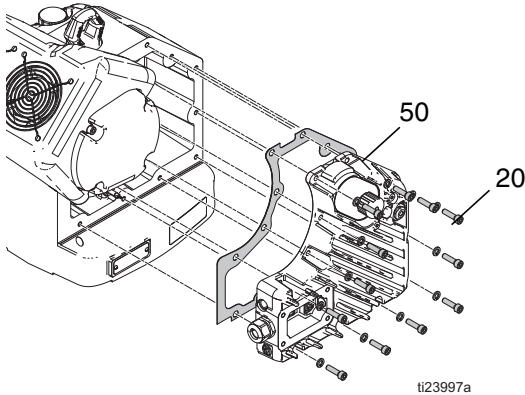

FIG. 20: Electronics Cover Removal
3. Install electronics cover (50) and tighten 12 screws (20). Torque to 15-20 ft-lb (20-27 N•m). See FIG. 20, page 16.
3. Remove 12 screws (20) and washers from electronics cover (50). See FIG. 20, page 16.